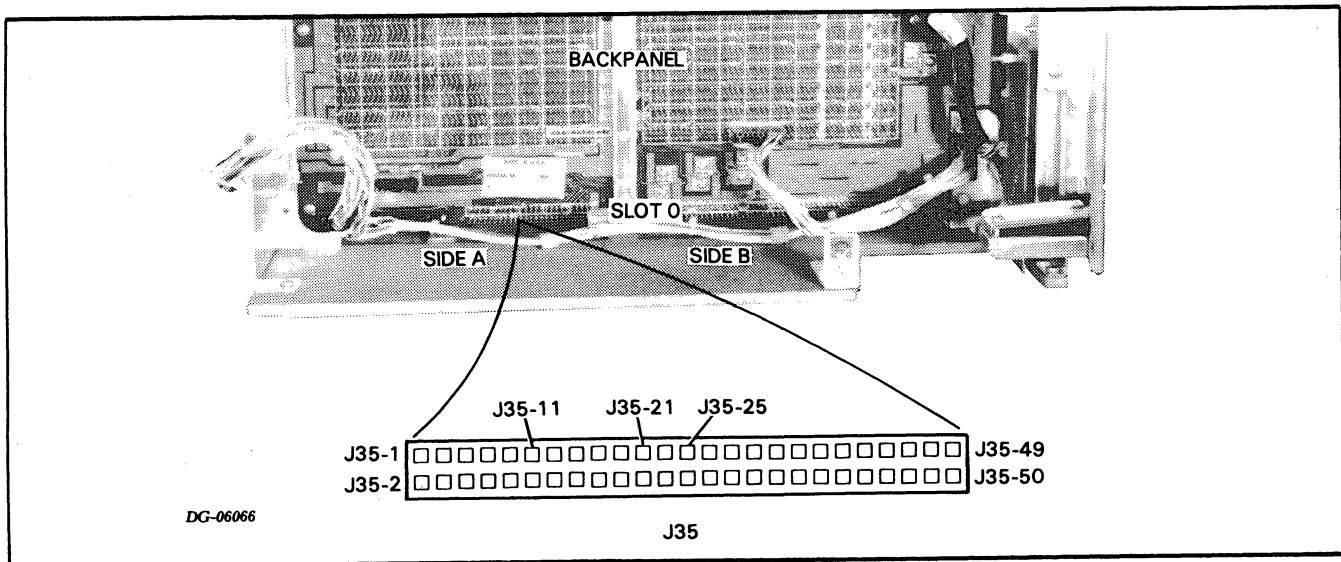

Figure 6.7 JACK J35
5. Short **MEMD** at J35-21 to **GND** at J35-1 (see Figure 6.7).
- Check the -11V voltage at J35-25 (see Figure 6.7)
- b. If the light is NOT on, check the $\overline{\text{ONLED-P}}$ voltage at J35-11 (see Figure 6.7).
2. Check the **+12 MEM** voltage at location J35-3 (see Figure 6.7).